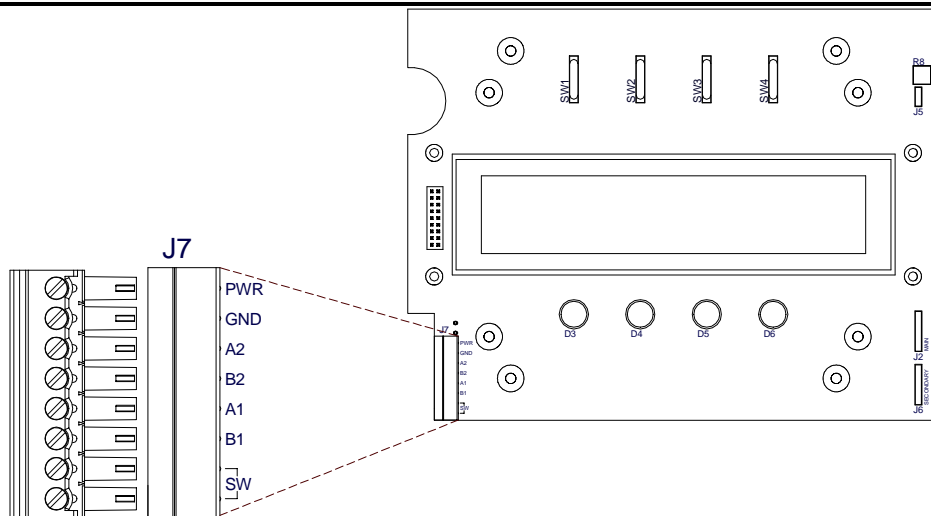

Figure 19 N7 Controller PCA
3. If the N7 enclosure is not provided with a J-Box from the factory, remove the faceplate from the controller enclosure to access the PCA (Figure 19). All appropriate wiring must be connected directly to the PCA J7 in this configuration.